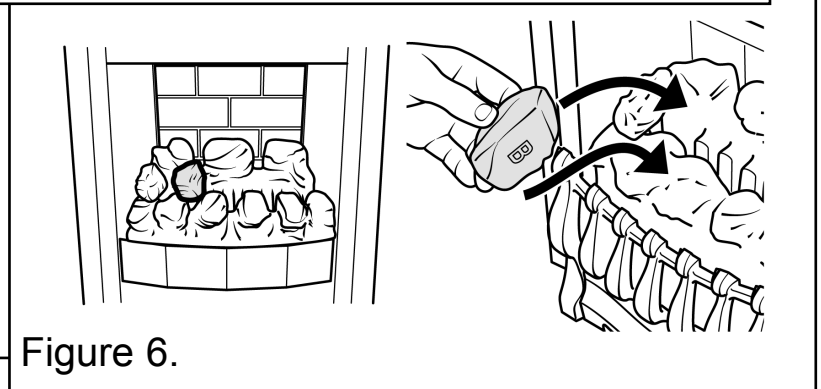

Figure 6.
4. Place a type “B” coal between the front and rear base coals as shown in figure 6. The letter “B” should be upright.